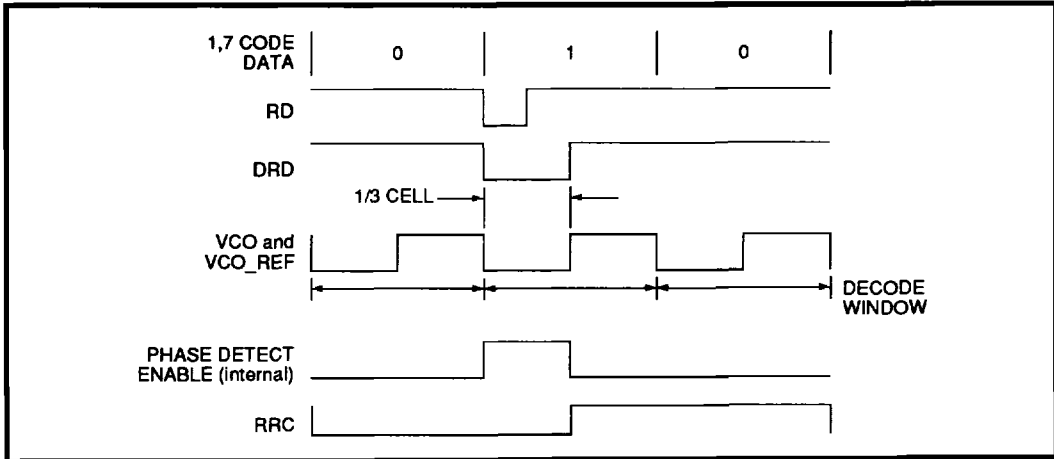

FIGURE 12: Data Synchronization Waveform
The data synchronizer utilizes a fully integrated fast acquisition PLL to accurately develop the decode window. Read gate (RG) initiates the PLL locking sequence and selects the PLL reference input; a high level (read mode) selects the internal RD input and a low level selects the reference clock. In the read mode the falling edge of DRD enables the phase detector while the rising edge is phase compared to the rising edge of the VCO reference (VCOR.) As depicted in Figure 12, DRD is a 1/3 NRZ bit cell wide pulse whose leading edge is defined by the falling edge of RD. A decode window is developed from the VCOR clock.